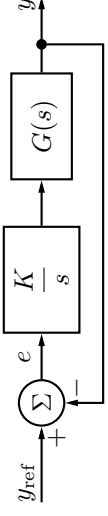

Figure 3.17c
- Assume that  $G$  is controlled using an I controller according to Figure 3.17c. For what values of  $K$  is the closed loop system stable?